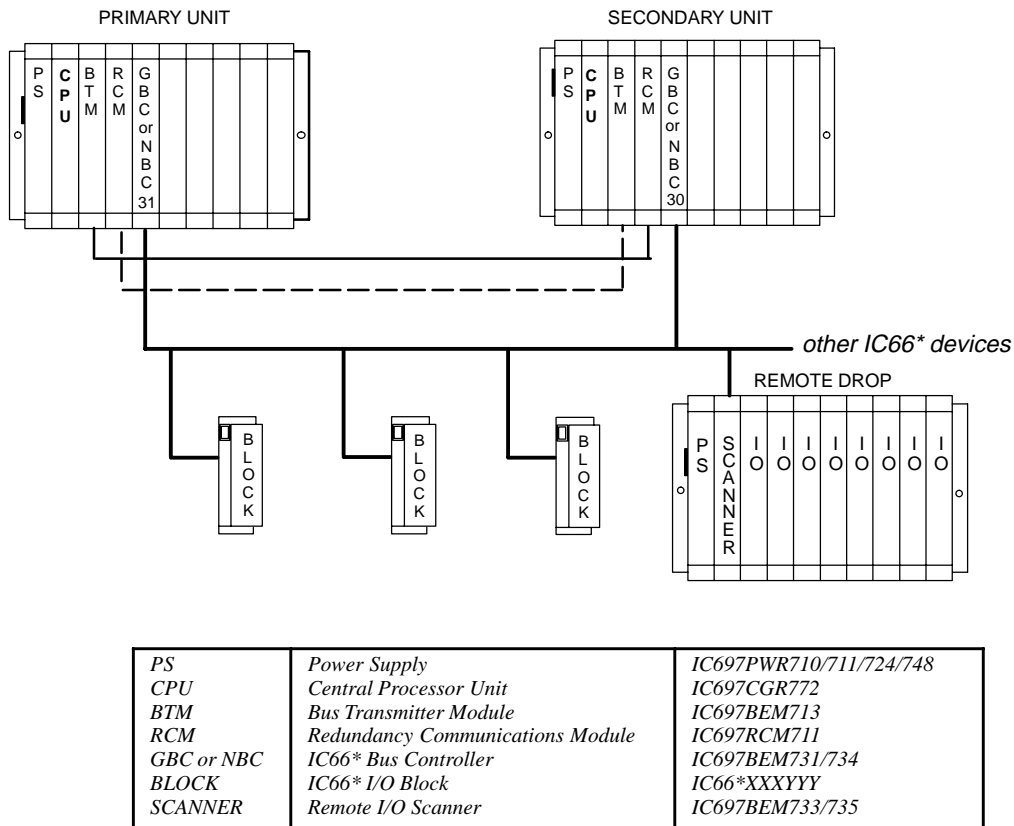

Figure 1. Typical Hot Standby CPU Redundancy System Configuration
The CGR772 is used as the controller in a CPU Redundancy system. Two redundancy control methods can be configured using the CGR772. The GHS method (IC660/661 Hot Standby) uses multiple single bus IC660/661I/O networks with one redundant controller in each synchronized PLC. The GDB method (IC660/661Dual Bus) uses multiple dual bus IC660/661 I/O networks with two redundant controllers in each synchronized PLC. The location of the CGR772 modules in a typical Hot Standby CPU Redundancy system is shown in Figure 1.
- Install in slot 1 of rack 0. (See Figure 1)
- Turn on power. The module should power up and the top left (OK) LED should blink. When the diagnostics have completed successfully, the top left LED stays on and the second (RUN) and third (EN) LEDs are off. The fourth (bottom left) LED (MEM PROTECT) is off if the keyswitch is in the OFF position. The CPU is now ready to be programmed (if connected parallel, the CPU can be programmed regardless of key position). After the program has been verified the toggle switch can be moved to the appropriate operation mode position; RUN WITH OUTPUTS ENABLED, RUN WITH OUTPUTS DISABLED, or STOP. The LEDs indicate the position of the toggle switch, memory protection status, status of serial port activity, and the state of the program.
The programmer connects to the top port on the Bus Transmitter Module (IC697BEM713) system interface module for a parallel interface (MS-DOS programmer only) as shown in Figure 1